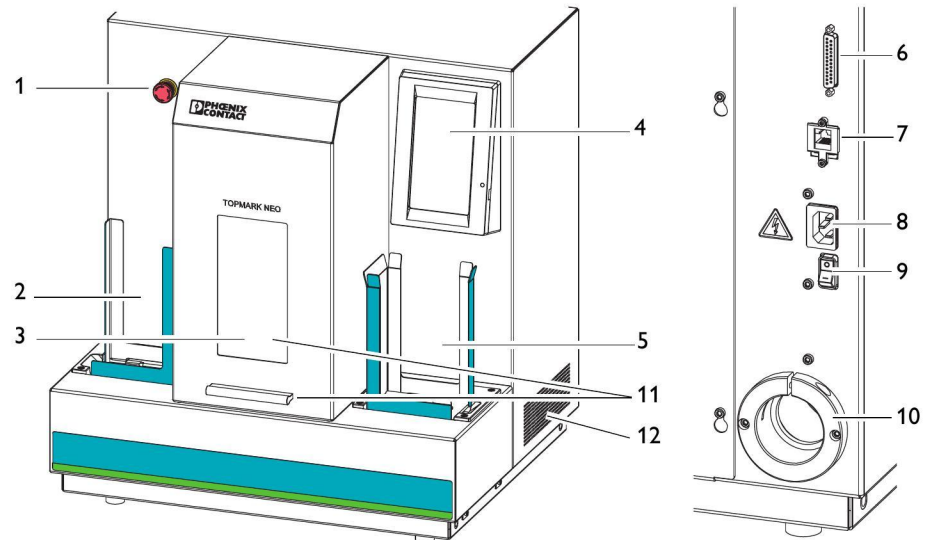

Figure 2-4 Front an connections on the back side
- Heat accumulation may damage the device. Ensure sufficient ventilation. Make sure the ventilation slots (see Figure 2-4) are not obstructed.